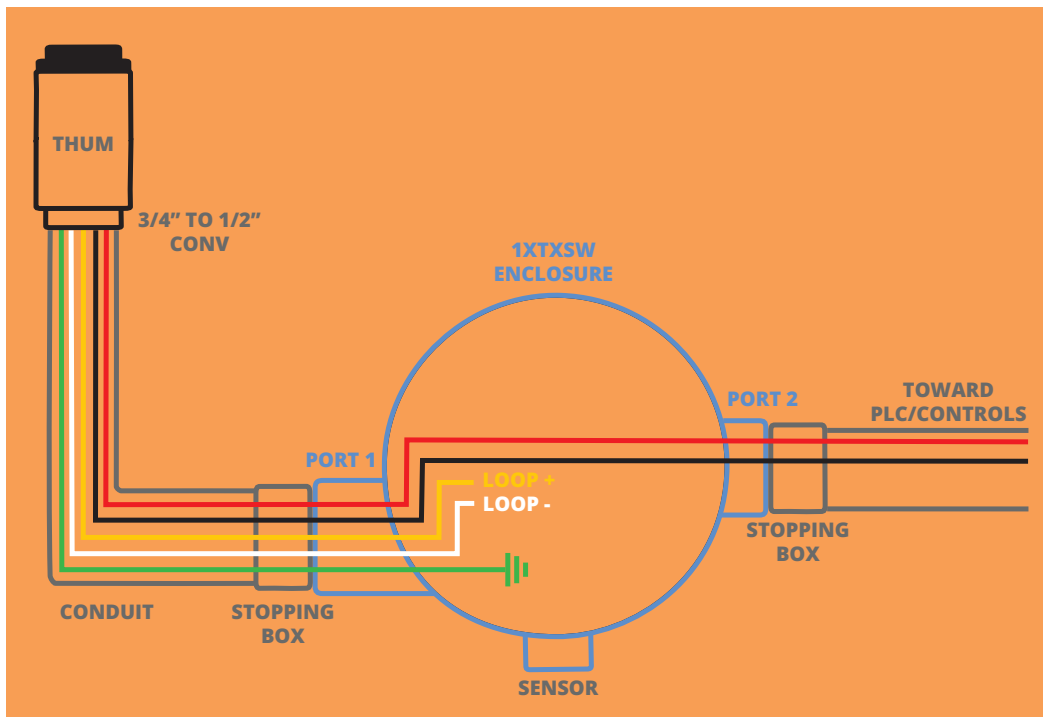

Figure 2: Physical schematic of 1XTXSW with conduits. The PLC/resistor and power supply are not shown in this picture; however they are necessary.
- The THUM is secured to the One Series via a direct conduit connection (See figure 2)
Figure 2 shows how UE recommends wires are routed to and from the 1XTXSW.
- 4 Open the 1XTXSW enclosure and pull out the display module to expose the wiring. This procedure is shown in part 2 of the 1XTXSW installation manual (See QR code). Connect the 4-20 loop, as shown in figure 2. Also connect the green grounding wire to the ground lug in the 1XTXSW. Leave the 1XTXSW open for now.
This mandates the use of the 2 stopping boxes shown in the diagrams. Note that the 2" of tubing is the total maximum for tubing on both ports. Realistically this mandates that the stopping boxes be fitted directly to the 1XTXSW before any other tubing. This is shown in Figure 2.